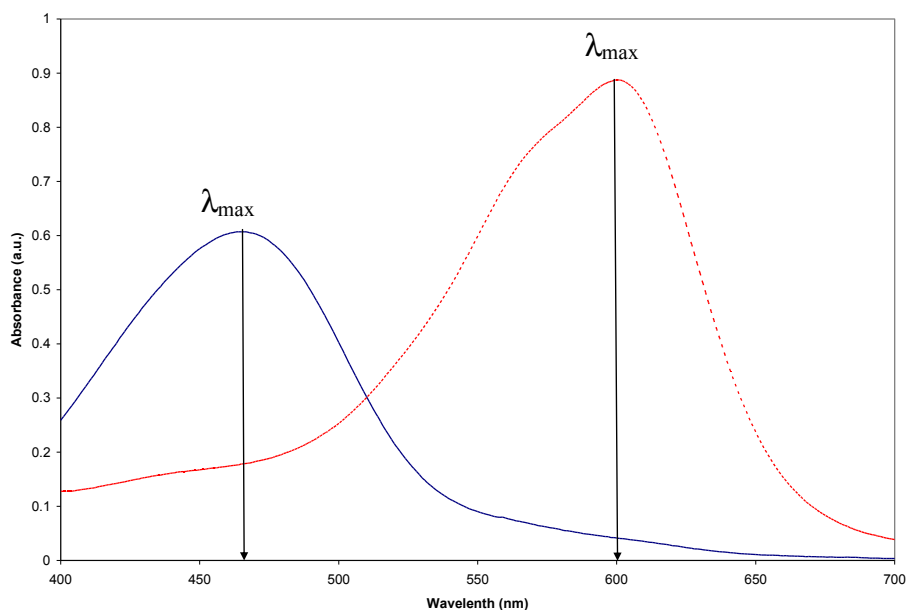

Figure 1: Absorption spectrum of Zincon reagent (blue line) and Zincon-zinc complex (red dots). Note λ_{MAX} for each species.
The electromagnetic (EM) spectrum covers an enormous range of wavelengths (or energies). The major divisions are depicted in Figure 7.2 of your textbook. You will notice that the region that can be perceived by the human eye (the visible spectrum, 400 – 700 nm) is only a small part of this spectrum. When a substance absorbs energy in any region of the EM spectrum it will undergo a change. This change can be bond vibration, molecular rotation, electron excitation etc. The amount of energy required to promote this change determines the region in which the change is observed. A graph of the amount of energy absorbed by a species at different wavelengths is called an absorption spectrum and it can be used to identify the species or determine its concentration (Figure 1). Normally, single wavelength analysis is used for concentration determinations (as long as the wavelength of maximum absorbance, λ_{MAX} , is known).
The first part of a quantitative analysis experiment involves determining the relationship between the amount of energy absorbed and the compound of interest. This is accomplished by preparing a series of standards containing the compound of interest, with known concentrations. One of the standards will be a blank solution. This solution will contain everything used to prepare standards and your unknown except the compound of interest. This will remove any influence from the other components of the solution on the observed absorbance. This is especially important in this experiment since the Zincon reagent, which is used to complex the zinc, absorbs slightly at the fixed wavelength being used (see Fig. 1).